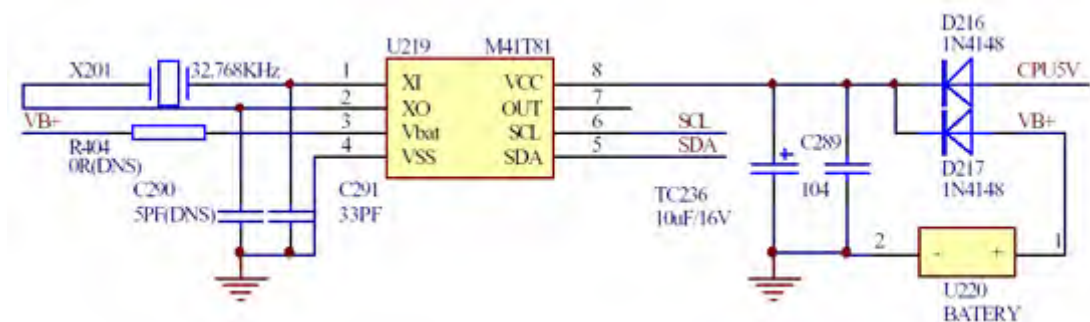

Figure 3.2.13.1 System time generation holding circuit diagram
1. System time generation holding circuit is shown as the following figure 3.2.13.1: